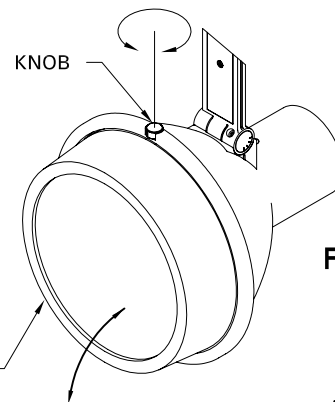

FIG. 5
2. Open ACCESSORY HOLDER by turning KNOB. (FIG. 5).
1. Close ACCESSORY HOLDER on Luminaire and tighten KNOB.(FIG 5).